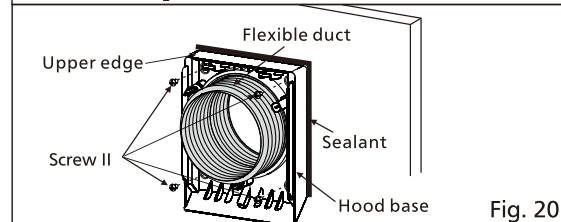

Fig. 20
6. Pull flexible duct to a suitable length through the hood base. Keep the upper edge of hood base horizontal and secure it by 4 screw II (ST4.2X20) in accessory. Seal the gap between the wall and hood base by sealant. (Fig. 20)